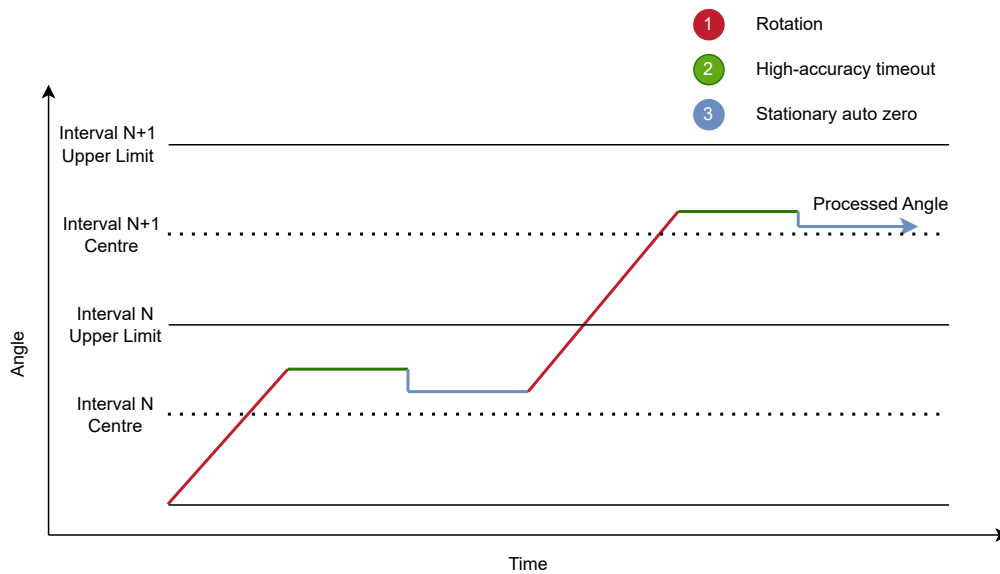

Figure 5.4: Stationary Auto-zero Behaviour
- > **Stationary:** An auto-zero event will occur when the high-accuracy timeout event occurs. A single adjustment is made to the absolute angle offset each time the device exits high-accuracy mode. The *auto-zero beta* parameter defines the size of the adjustment, with an auto-zero beta value of 0 resulting in a jump to the exact center of the interval. This behaviour can be viewed in Figure 5.4.